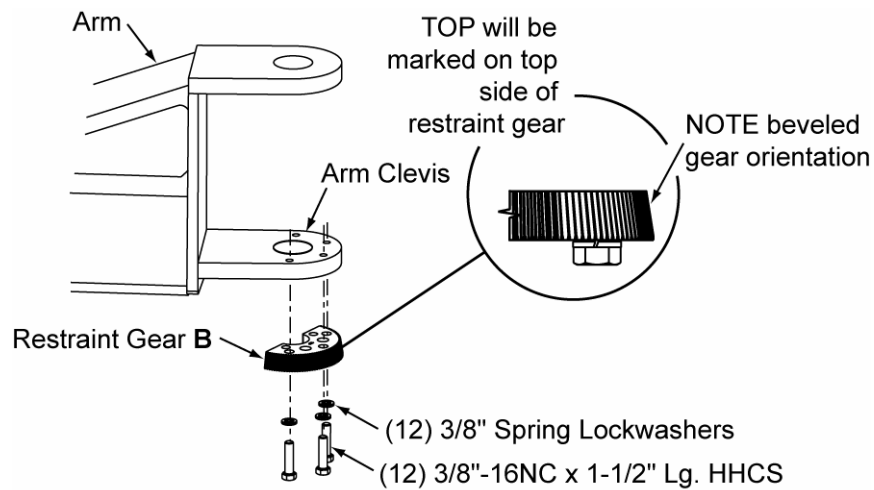

Figure 15
- B. Install the swing arm restraints, figure 15.